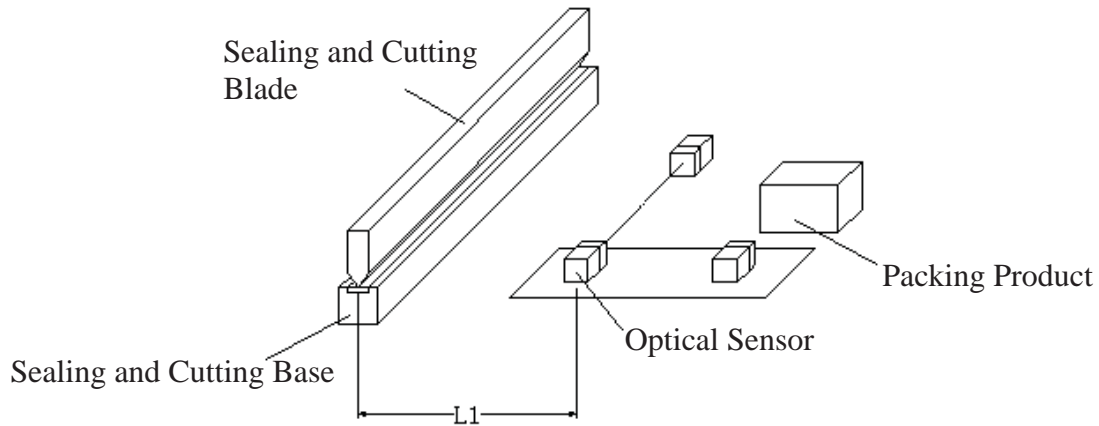

Figure 3-10 Horizontal Sensors
- Two types of optical sensors (Horizontal type and Vertical type): Horizontal type optical sensors (as shown in Figure 3-10) are applied on packing square or rectangular product. It includes a wait function. The Vertical optical sensor is mostly used for packing thinner products, but there is no wait function on this sensor.